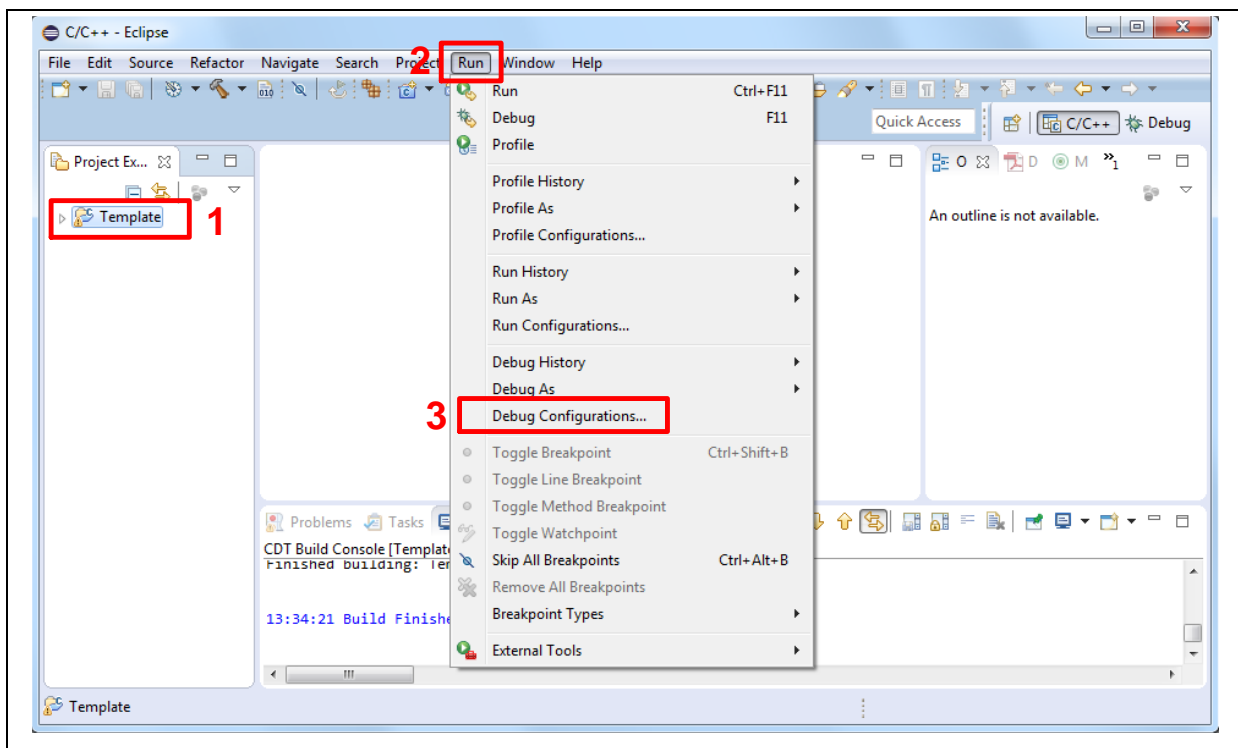
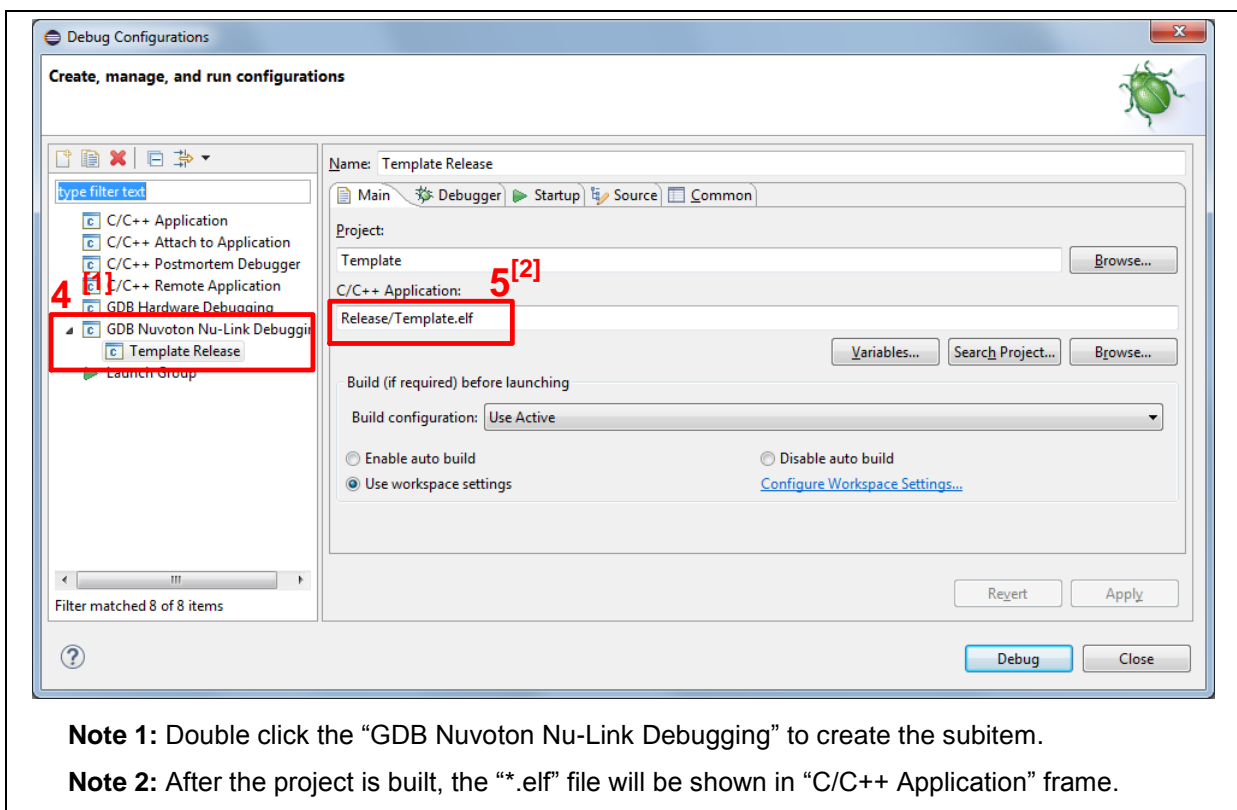
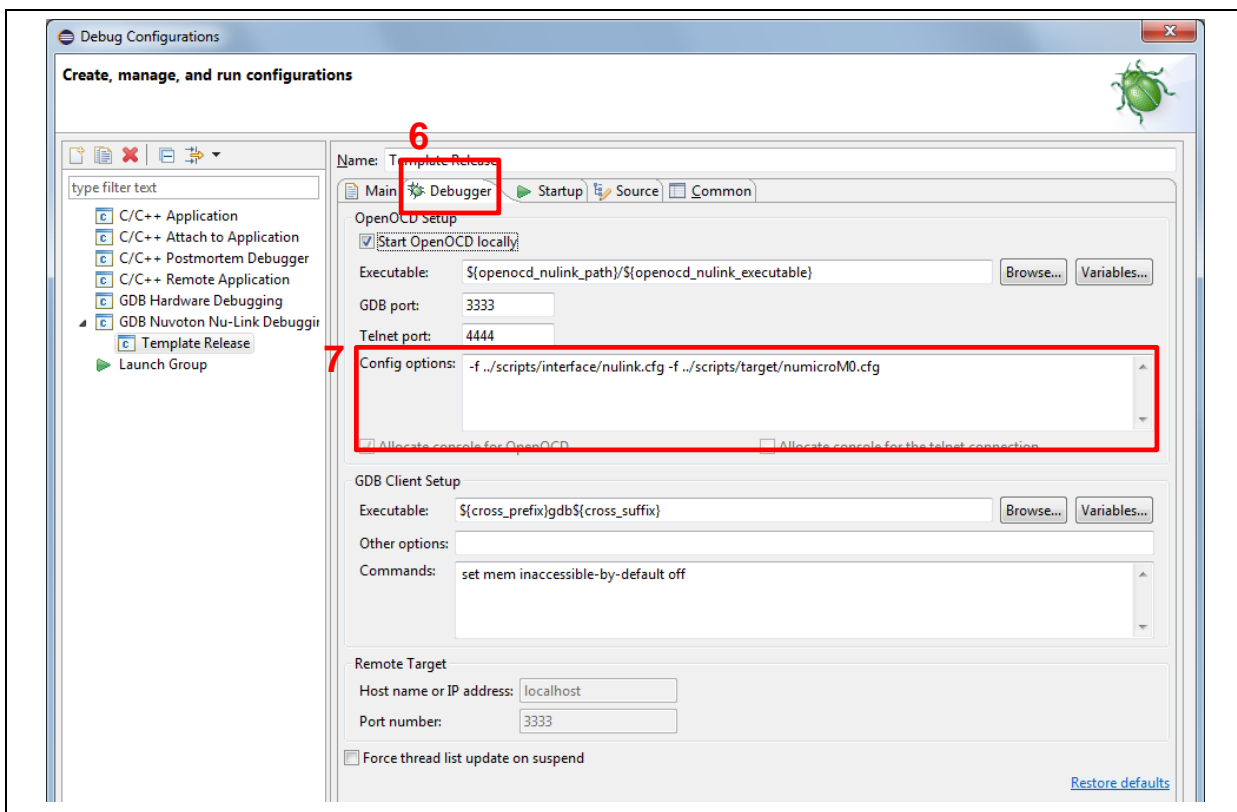
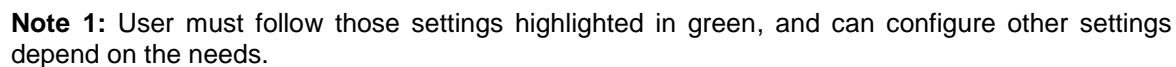

Figure 3-32 Open Debug Configuration
Figure 3-33 Main Tab Configuration
Figure 3-34 Debugger Tab Configuration
Figure 3-35 Startup Tab Configuration
- After the project is built, click the "Template" project and set the "Debug Configuration" as shown in Figure 3-32. Follow the settings presented in Figure 3-33, Figure 3-34 and Figure 3-35 to enter debug mode.